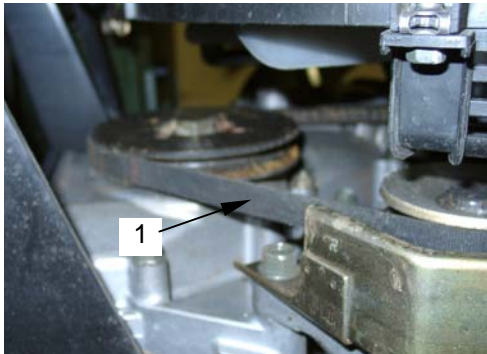

Figure 18. Fan Belt
- e. Pivot generator towards water pump to slacken the fan belt (**figure 18, item 1**).
- f. Remove the fan belt (**figure 18, item 1**).
- g. Install new fan belt (**figure 18, item 1**) on generator, fan and engine pulleys.